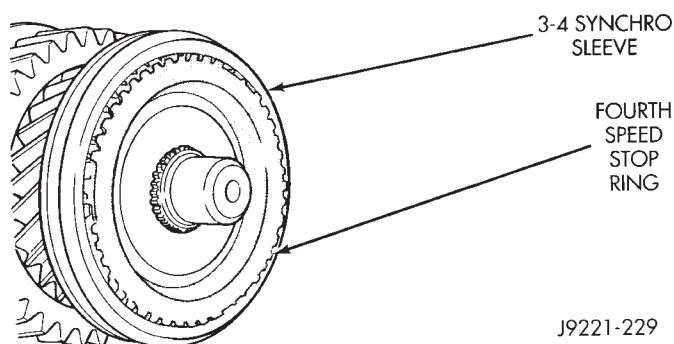

Fig. 119 Fourth gear Stop Ring Installation
(36) Install rear bearing on mainshaft.
(37) Install fourth gear stop ring in 3-4 synchro sleeve (Fig. 119).